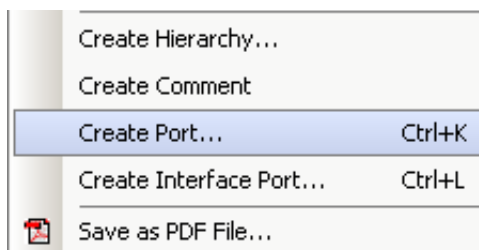

Figure 54: Create Interface Port Option
- Create Interface Port** (for an interface such as DDR3), then click **OK** (Figure 54).